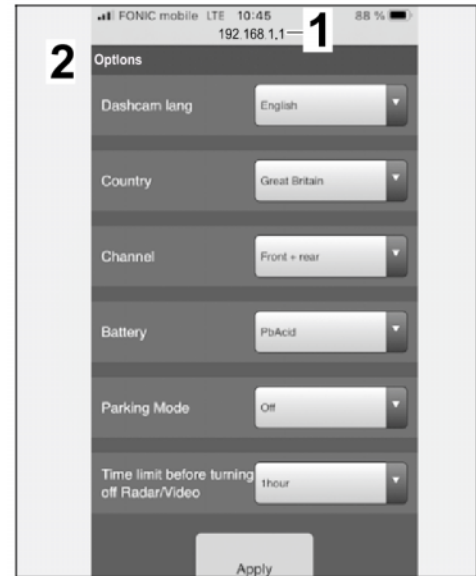

Figure 18
Options: (⇒ *Figure 18*)
5.3 Basic settings for front camera (dashcam) in the "Options" menu item (⇒ *Figure 18*)